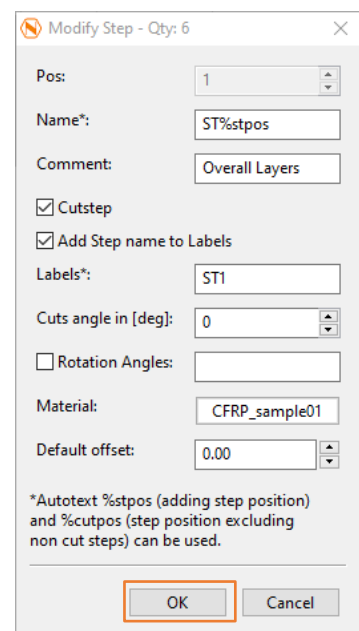

Figure 232
17. Nice, now we have assigned the correct material to our first 6 steps. Confirm with **OK** (Figure 232).